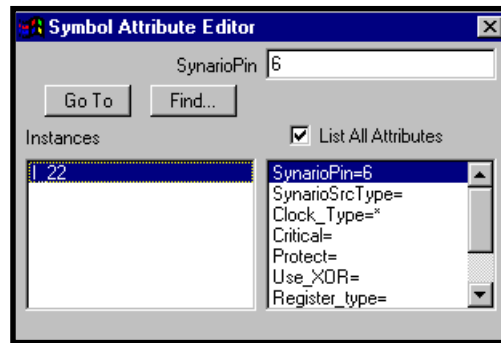

Figure 3-11. Symbol Attribute Editor Dialog Box (ispLSI Devices)
3. Select the attribute you need to add or edit and replace \* with proper values as shown in Figure 3-11 in the text box. Click **Go To** to add the value of the selected attribute to the I/O Pad or symbol in the schematic. Close the dialog box.